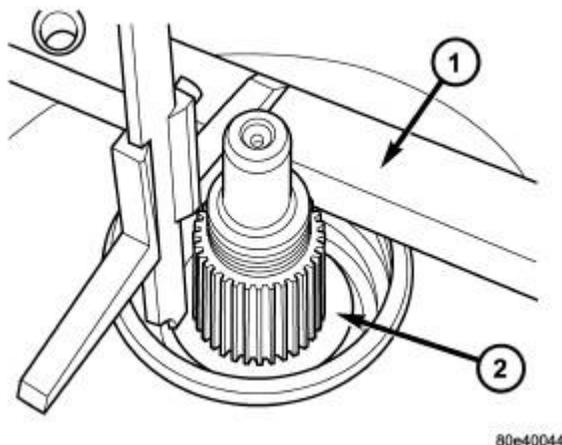

Fig. 77: Measuring From Transmission Housing To Park Gear
22. Place Gauge Bar (special tool #6311, Gauge Bar) (1) on transmission housing. Using a depth gauge, measure from the gauge bar (1) to the parking lock gear (2). Refer to **Fig. 77**.